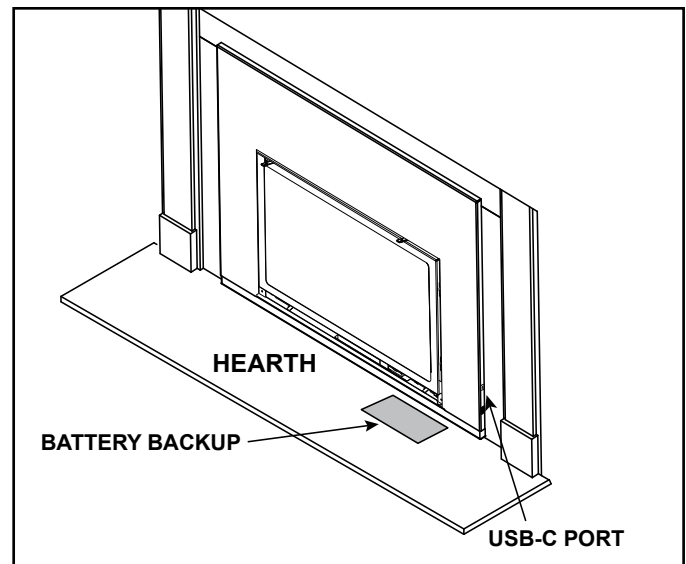

Figure 3.8
5. Locate the USB-C connector on the appliance as shown in Figure 3.8. Remove rubber plug from the USB-C port and insert the battery backup power source USB-C connector into the appliance USB-C port. Save USB-C rubber plug for reusing after power has been restored. ←
6. Place the battery backup power source away from any heat source and hot surface to the extent possible. Excessive heat will reduce the battery life. See Figure 3.8. ←